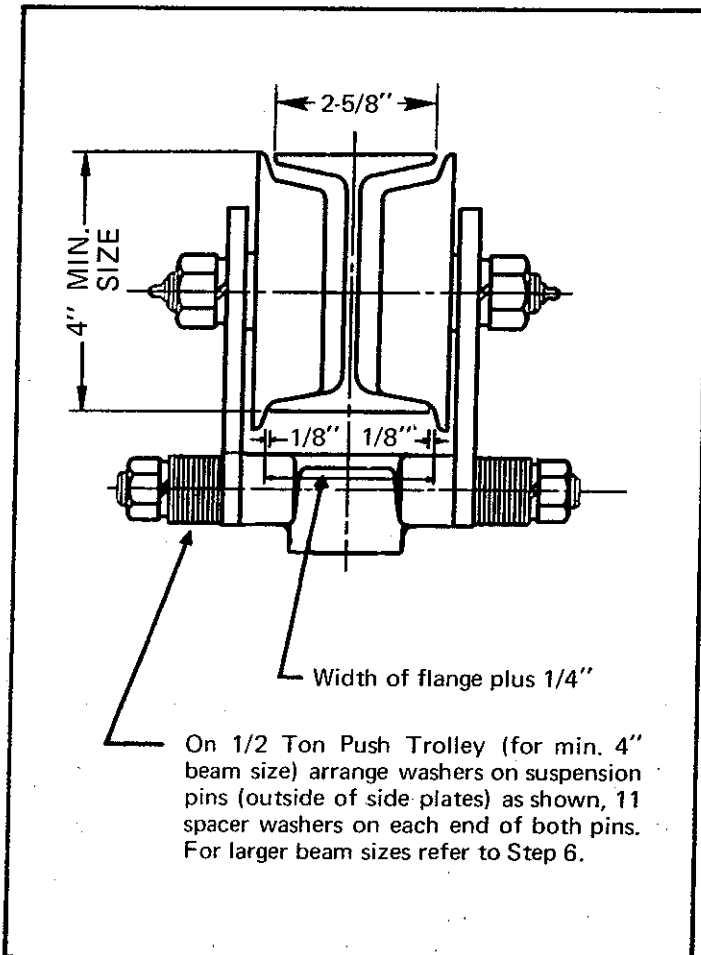

Figure 2. 1/2 Ton Push Trolley
4. Measure exact width of bottom beam flange and add 1/4" to this dimension. This is the required distance between inside faces of wheel flanges to obtain proper operating clearance, as indicated in figures 2 through 8.
5. If trolley being mounted on hoist is to operate on minimum size I-beam for which it was designed, attach trolley to hoist with the spacer washers arranged on suspension cross pins as illustrated in figures 2 through 8, depending upon trolley type and capacity. As stated in paragraph 3, it may be necessary to adjust washer quantity to meet a non-standard flange width. Minimum beam size for 1/2 ton trolleys is 4"; 5" for 1 ton trolleys and 6" for 2 & 3 ton trolleys.
6. If trolley is to operate on a beam of larger than minimum size, additional spacer washers, to those shown in figures 2 through 8 must be installed inside side plates (at each end of lug) to obtain the desired distance (Step 4) between inside faces of wheel flanges. The table on page 4 shows approximate number of washers needed for various beam sizes. Trolley should be temporarily assembled to hoist using prescribed number of washers from chart and then the distance between wheel flanges measured. An equal number of washers must be removed or added at each end of lug inside side plates) as required to obtain proper wheel spacing determined in step 4. When spacing is correct, remaining spacer washers are to be installed in equal numbers on outside ends of cross pins. Install lockwashers and tighten hex nuts.